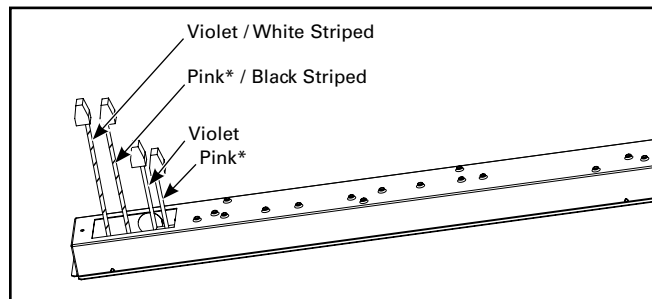

Figure 2.
- 2a. For a fixture without an integrated sensor, locate four control wires with push nuts (violet, pink*, violet / white stripe, pink* / black stripe). (Figure 2.)
3. Use the supplied push nuts to connect the control input 0-10V dimming violet and pink* wires to the corresponding fixture violet and pink* wires. (Figure 2.)
4. Use the supplied push nuts to connect the control input 0-10V CCT wires to the corresponding fixture violet/white stripe and pink*/black stripe wires. (Figures 2 and 3.)